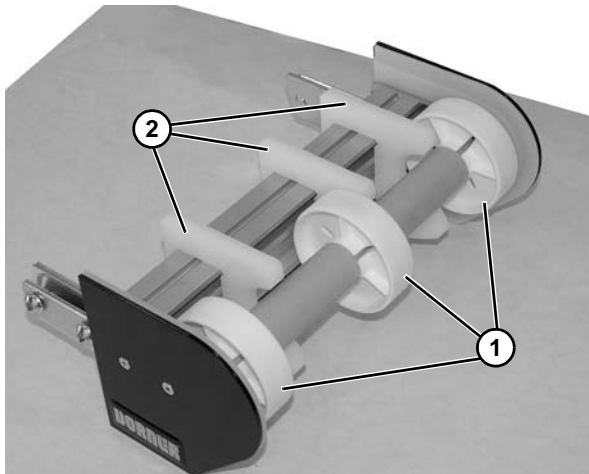

Figure 88
10. Install components reverse of removal, making sure idler pucks (Figure 88, item 1) and gap filler plates (Figure 88, item 2) are evenly spaced on assembly.